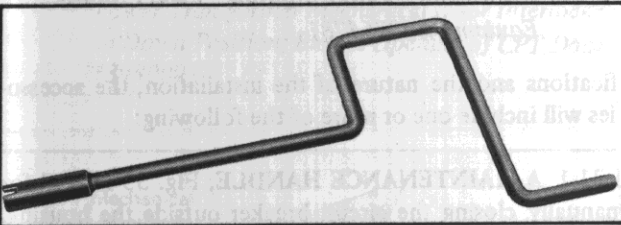

Fig. 34 Levering-in Crank (376453)
1.31.2 A LEVERING-IN CRANK (Fig. 34) for moving the breaker between the test and connected positions. This crank is used for rotating the levering-in nut which is a part of the breaker.